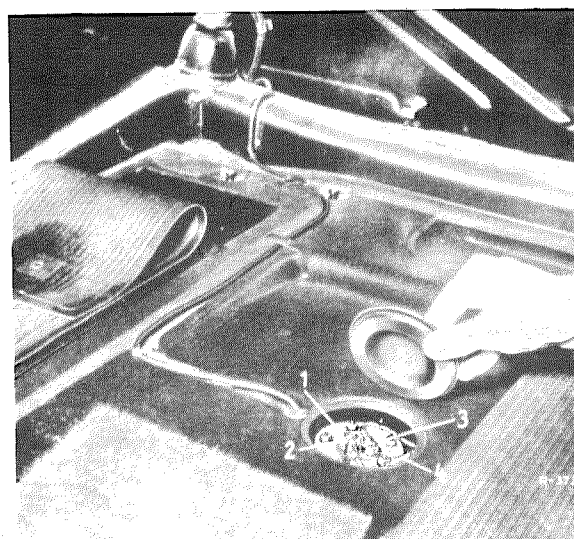

Fig. 54 — 2/2
6. Take out the rubber mat in the center part of the trunk compartment. Press off the cover (5) for the fuel tank indicator mechanism.
nism. Then disconnect the two cables (2) and (3) and the ground cable (4) at the fuel level indicator mechanism (Fig. 54 — 2/2).